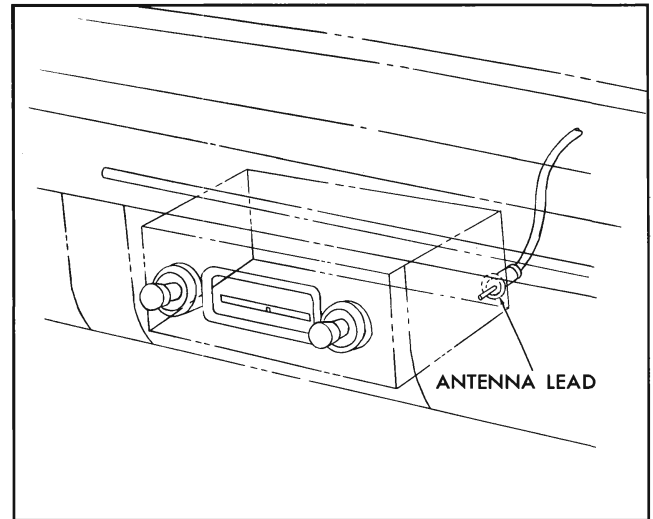

Fig. 12-4 Antenna Lead
2. Disconnect lead-in plug from radio receiver (Fig. 12-4).